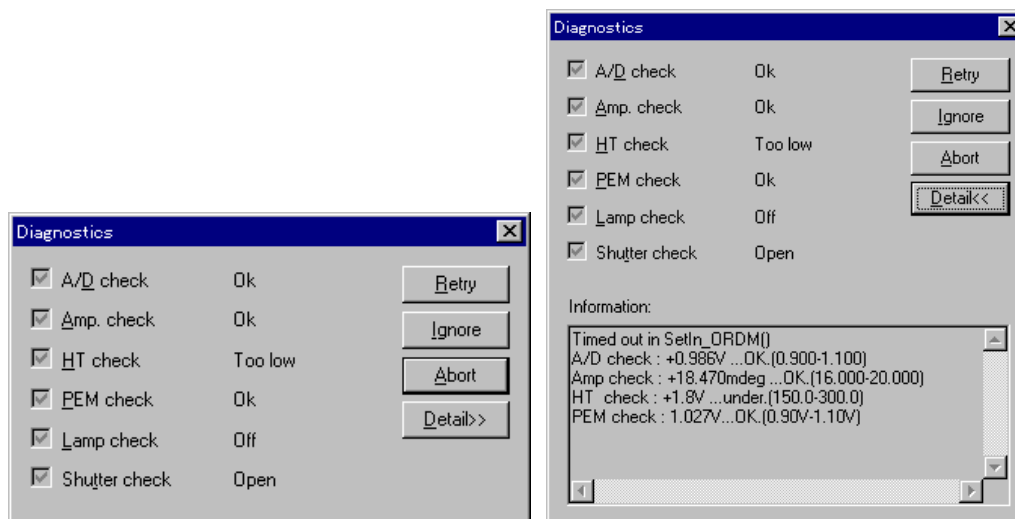

Fig. 2.5 [Self-diagnosis] dialog box
Note (2): If self-diagnosis is not completed normally, the dialog box at the left of Fig. 2.5 will appear. Clicking on the <Detail> button displays error information (right screen in Fig. 2.5).
If the light source does not light, the error message "HT value too small" will appear simultaneously with the light source going out, as shown in Fig. 2.5. In that event, click on <Ignore>, start the measurement program, click on [Control] - [Light source control...], open the [Light source control] dialog box and light the light source. (Refer to "4.2.3".)